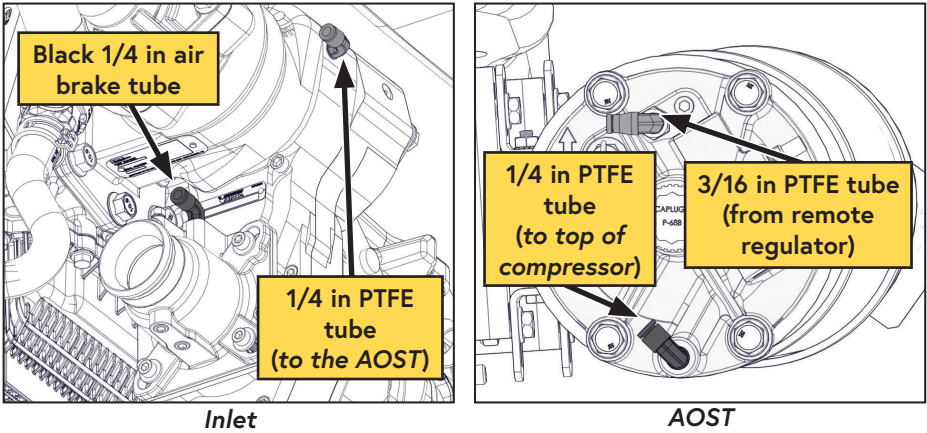

Figure 34 — Connect PTFE tubes
- ☐ Connect the black 1/4 in air brake tube to the fitting on the inlet (Figure 34).
- ☐ Install the translucent 1/4 in PTFE tube into the scavenge fitting on the top of the compressor (Figure 34).
- ☐ Trim the PTFE tubes as necessary and connect them to their respective fittings on the back of the AOST (Figure 34).